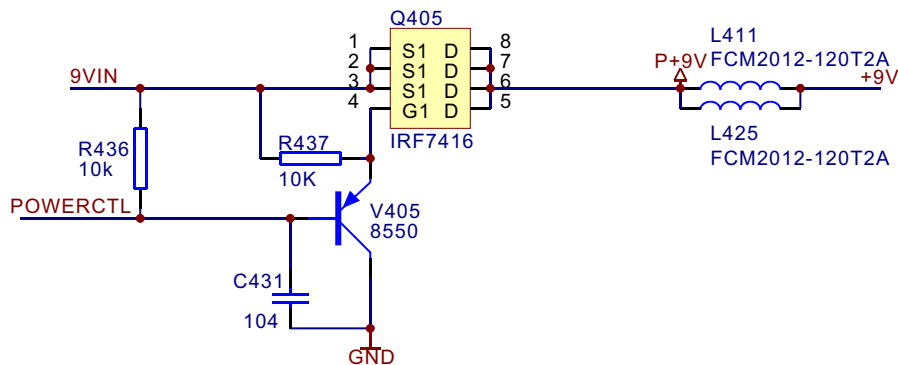

Figure 3.2.4.1 DC-DC switch circuit diagram
1. DC-DC switch circuit is shown in the figure 3.2.4.1: